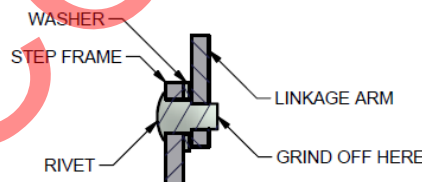

Figure 2 Installed rivet
- 1) Grind off the backside (the side with the "X" indentation) of the rivet until it is flush with the metal. (See Figure 2)